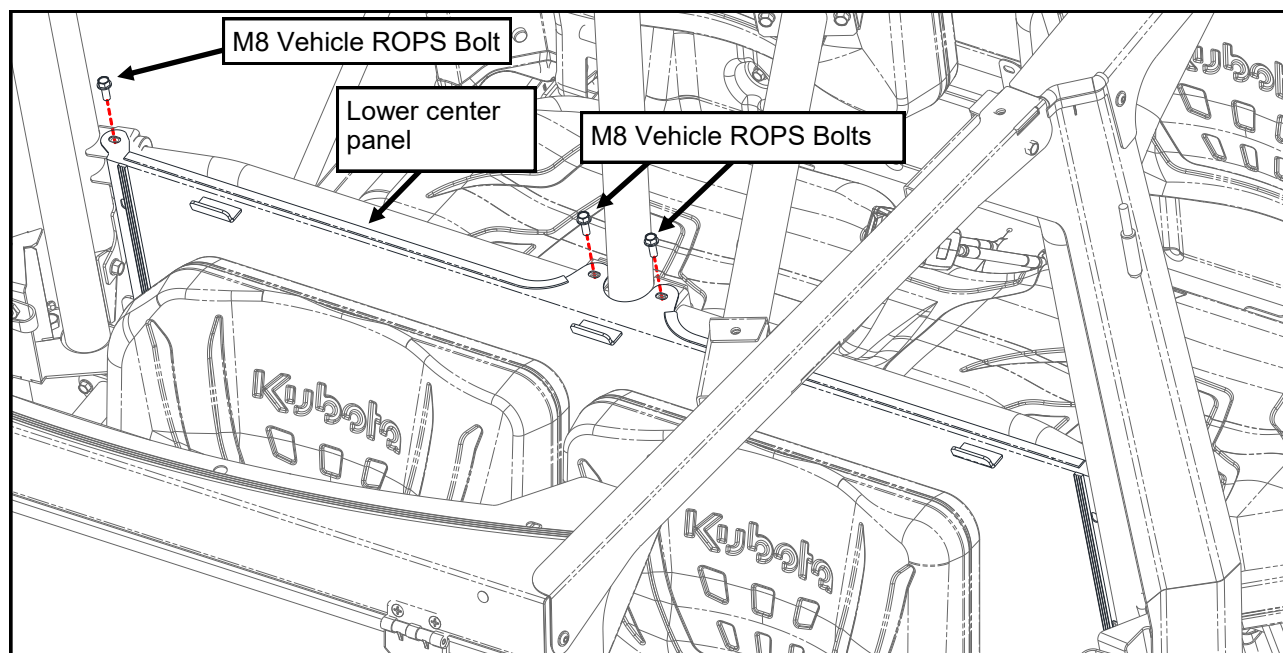

Figure 1.2: Lower Center Panel
- 1.2 Remove the upper (4) M8 bolts from the center cross braces of the vehicle ROPS. Do not loosen or remove the lower bolts (see Figure 1.2).